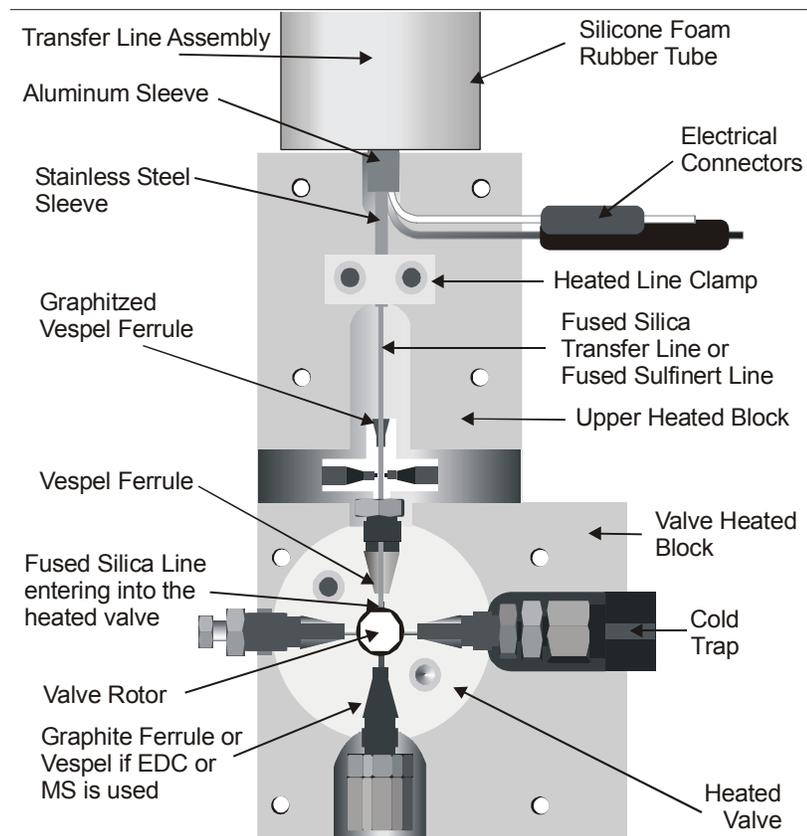

Figure 8 Connect the Transfer Line to the TD Instrument
5. Remove the upper heated block from just above the valve. See Figure 8.